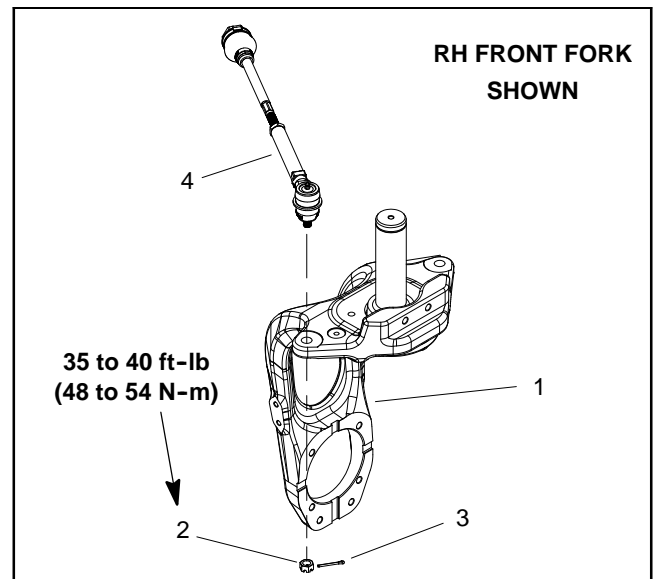
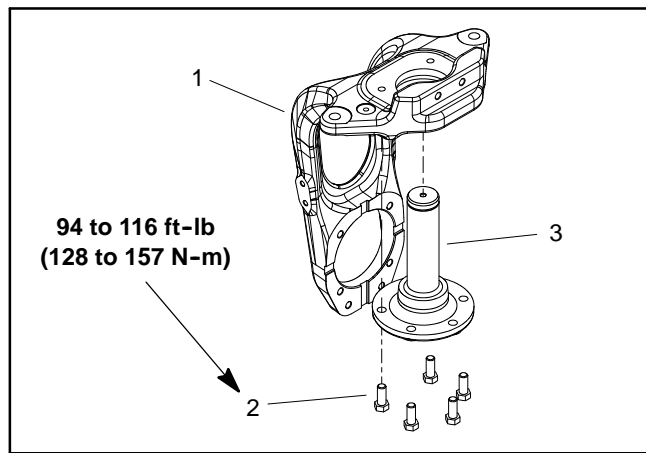

Figure 25
Figure 26
5. Remove cotter pin and slotted hex nut that secure tie rod end to the steering fork (Fig. 25). Separate tie rod end from the steering fork.
- A. Remove two (2) cap screws (item 34) that secure bulkhead bracket (item 23) to steering fork.
- B. Remove four (4) cap screws that secure wheel motor to steering fork. Slide wheel motor assembly (with wheel hub and hydraulic lines attached) from steering fork. Carefully, position wheel motor away from steering fork taking care to not damage hydraulic lines.
8. Remove the flange head screw (item 21), spindle cap (item 20) and retaining ring (item 19) that secure the steering fork shaft into the axle tube. Slide the steering fork out of the axle tube. Locate and retrieve thrust washers (items 7 and 11) from steering fork spindle.
9. Thoroughly clean the steering fork spindle. Inspect the shaft for wear and replace steering fork spindle if shaft is worn or damaged (Fig. 26). If spindle was removed from steering fork, torque cap screws from **94 to 116 ft-lb (128 to 157 N-m)** during assembly.